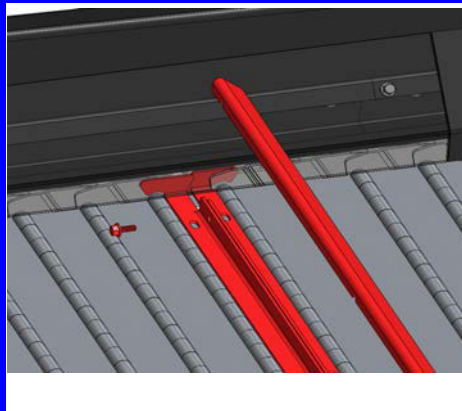

Figure 19 : Closing the belt
1. Drive the belt forward using the gear motor drive until the two ends of the belt are close (**Figure 19**).